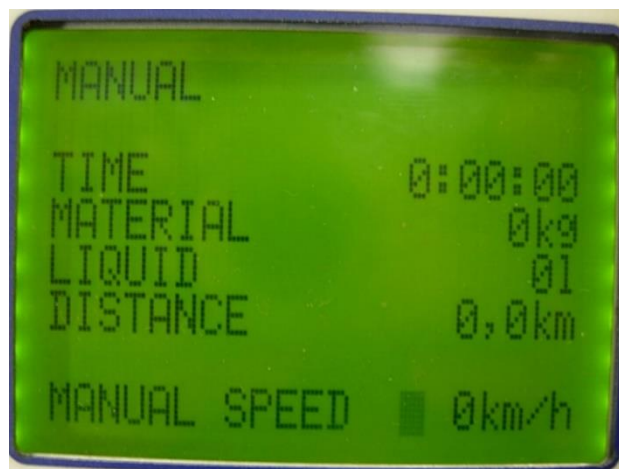

Figure 4. Manual speed mode. (SIIA UUS PILT)
- The display is as shown on Figure 4 (“MANUAL SPEED” is 0 km/h, as the spinner spreader is currently in the automatic GPS mode). Changing that speed switches the spinner spreader to the manual speed mode).
- In order to return to the automatic GPS mode, change “MANUAL SPEED” 0 km/h (as shown on Figure 4).